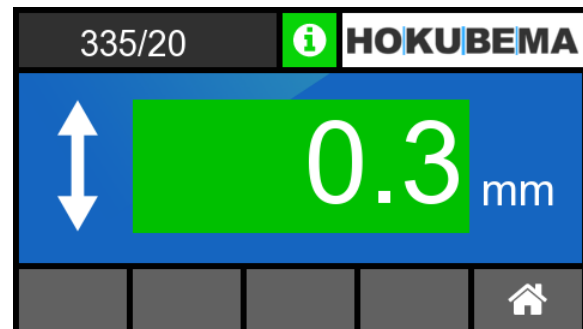

Figure 39: Chip removal must be calibrated
- If not (see example in ⇒ Figure 39) , the touchscreen display must be recalibrated.